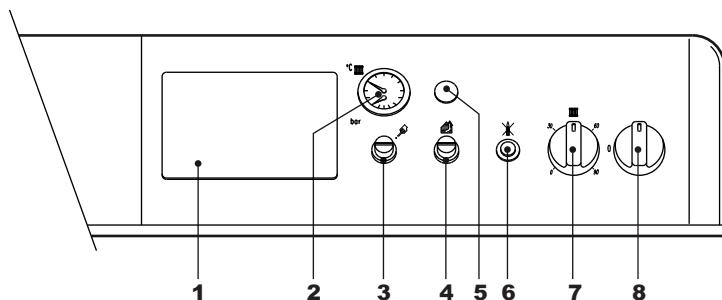

fig. 1 - Control panel
- Turn the boiler switch "8" to 1 (fig. 1).
- If the boiler is equipped with an electronic thermostatic controller fitted in position 1 of fig. 1 of , the user must also take into account the manufacturer's instructions.
Turn the knob 7 of fig. 1 clockwise to increase the heating water temperature, or anti-clockwise to decrease it. The temperature can be varied from a minimum of 30°C to a maximum of 90°C. However, it is advisable not to operate the boiler below 45°C.
Using the room thermostat, set the required temperature in the rooms. By command of the room thermostat, the boiler lights and brings the system water to the temperature set by boiler adjustment thermostat 7 of fig. 1. The generator turns off when the required temperature in the rooms is reached.
The filling pressure with system cold, read on the boiler water gauge detail 2 of fig. 1, must be approx. 1.0 bar. If, during operation, the system pressure falls (due to the evaporation of gases dissolved in the water) to values below the minimum described above, the user must bring it to the initial value by operating the filling cock. At the end of the operation always close the filling cock.